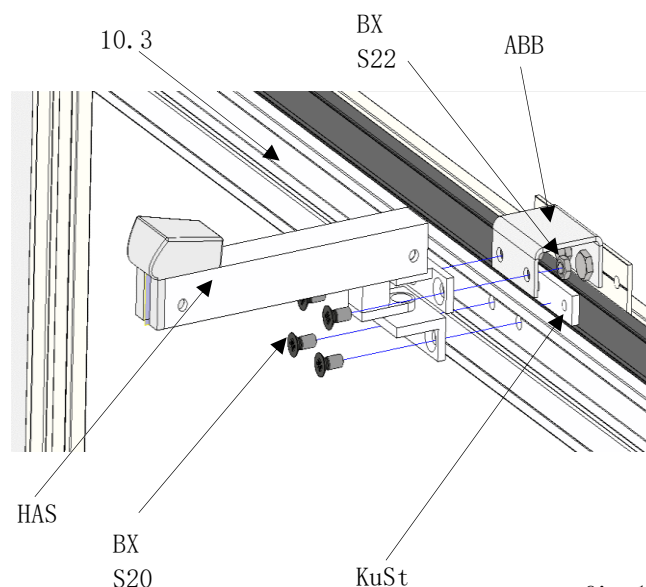

fig. 141
- attach the hand-opener (item HAS) to the crossbar (item 10.3) using a sliding block (item KuSt) and 2x countersunk screws (item S20). (fig. 141)
- Mount the hand opener (item HAS) with 2x countersunk screws (item S20) and 2x hexagon nuts (item S22) on the connecting plate (item ABB). (fig. 141)